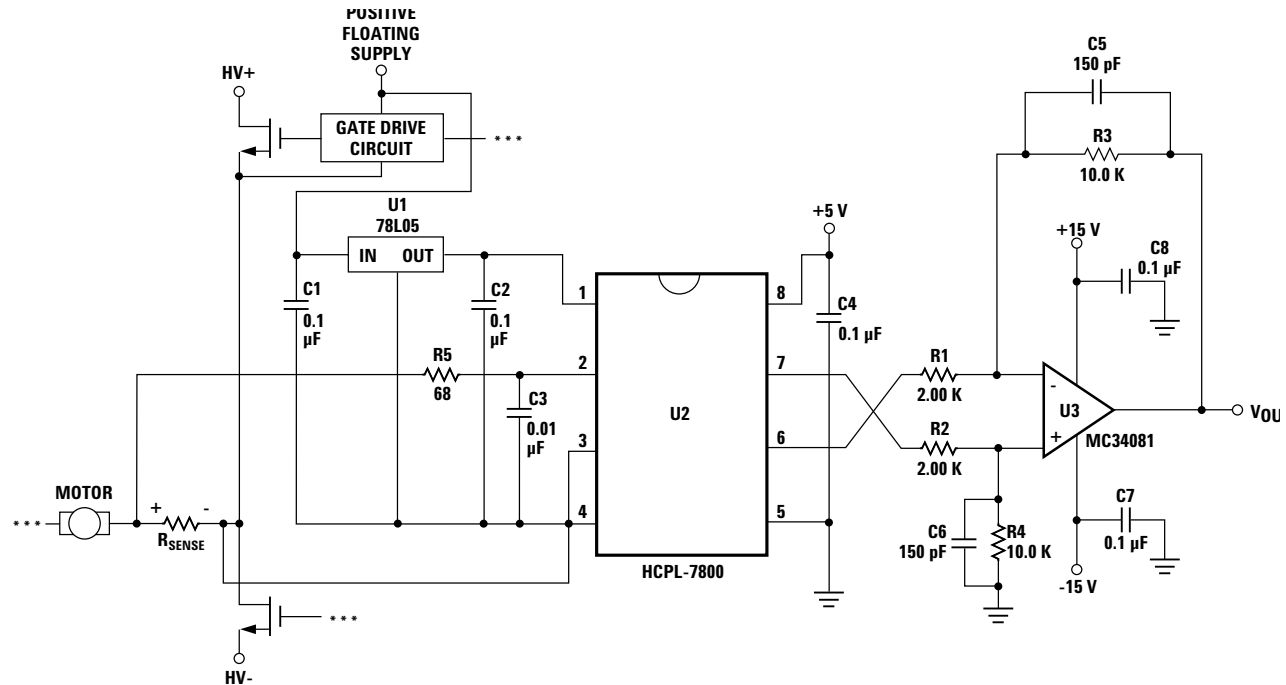

Figure 18: Recommended Application Circuit.
As shown in Figure 18, 0.1 μF bypass capacitors (C1, C2) should be located as close as possible to the pins of the HCPL-7800(A). The bypass capacitors are required because of the high-speed digital nature of the signals inside the HCPL-7800(A). A 0.01 μF bypass capacitor (C3) is also recommended at the input due to the switched-capacitor nature of the input circuit. The input bypass capacitor also forms
The recommended method for connecting the HCPL-7800(A) to the current sensing resistor is shown in Figure 18. V_{IN+} (pin 2 of the HCPL-7800(A)) is connected to the positive terminal of the sense resistor, while V_{IN-} (pin 3) is shorted to GND1 (pin 4), with the power-supply return path functioning as the sense line to the negative terminal of the current sense resistor. This allows a single pair of wires or PC board traces to connect the HCPL-7800(A) circuit to the sense resistor. By referencing the input circuit to the negative side of the sense resistor, any load current induced noise transients on the resistor are seen as a common-mode signal and will not interfere with the current-sense signal. This is important because the large load currents flowing through the motor drive, along with the parasitic inductances inherent in the wiring of the circuit, can generate both noise spikes and offsets that are relatively large compared to the small voltages that are being measured across the current sensing resistor.